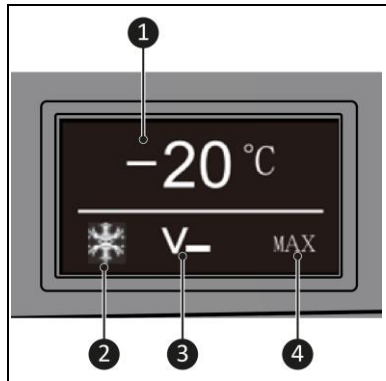

Figure 4
- Temperature (Figure 4, pos. 1) shows the set or current temperature in the device (Celsius or Fahrenheit).
- Cooling (Figure 4, pos. 2) shows if the device is actively cooling.
- Battery protection (Figure 4, pos. 3) shows the currently selected battery protection mode (low, medium or high).
- Cooling capacity (Figure 4, pos. 4) shows the cooling capacity (MAX or ECO).